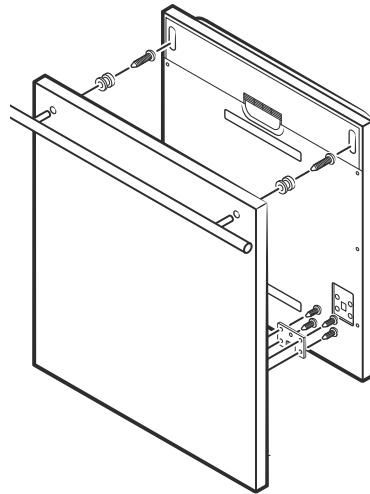
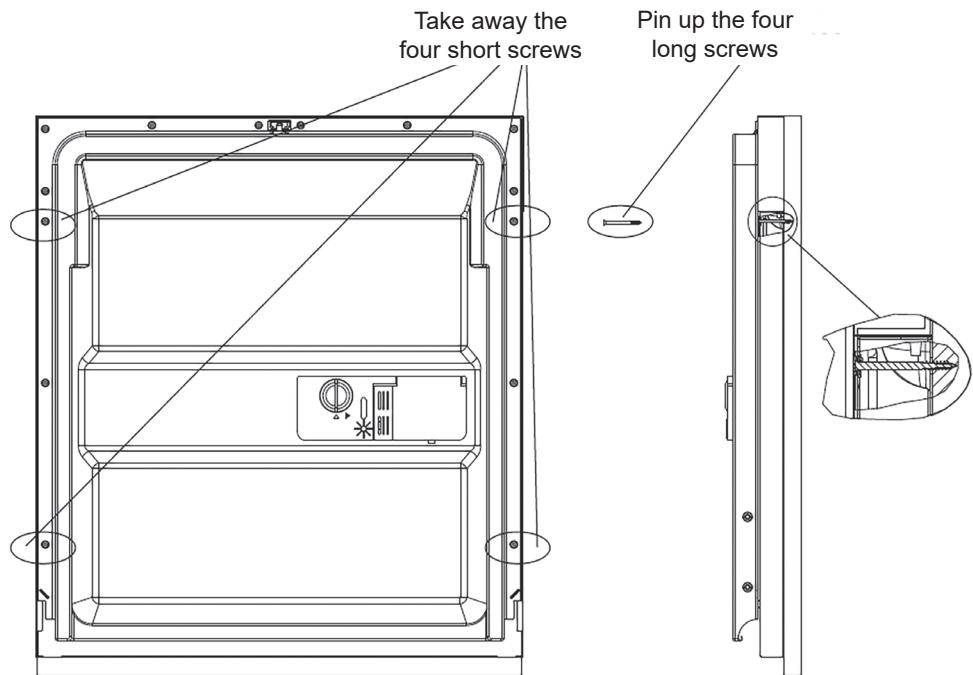

Figure 4a - Installation of aesthetic panel
Figure 4b - Installation of aesthetic wooden panel
- Install the hook on the aesthetic wooden panel and put the hook into the slot of the outer door of dishwasher (*figure 4a*). After positioning of the panel , fix the panel onto the outer door by screws and bolts (*figure 4b*).